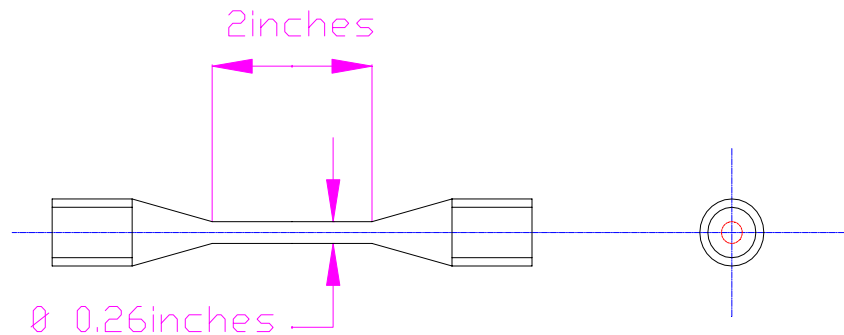

Figure 1 – The Standard Material Sample
5. The standard sample used in the Instron machine is drawn at Figure 1. It consists of a cylinder exactly 2 inches long with a cylindrical diameter of 0.26 inches.